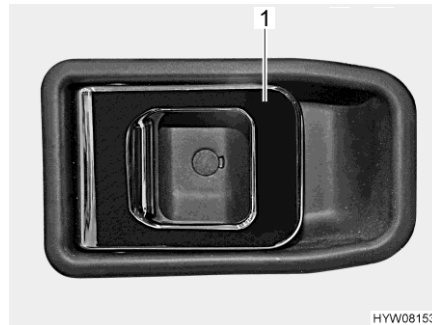

Fig. 54 Door lock (driver's door, inside)
- Opening:* ■ Pull on the handle (Fig. 54,1). The door lock is unlatched or opened.
- Locking:* ■ Push the handle (Fig. 54,1). The door lock is locked.